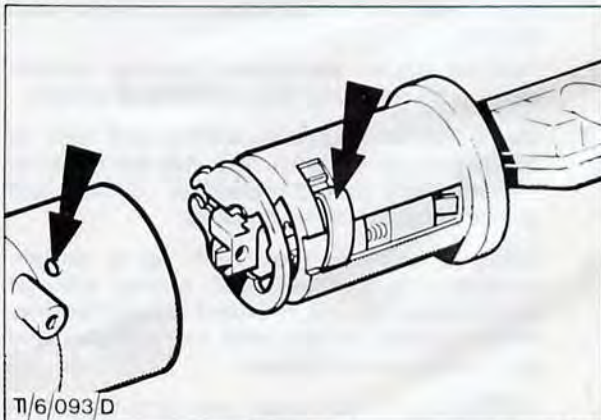

Fig. 80. Housing and cylinder in correct alignment prior to assembly
12. With reference to Fig. 80 insert cylinder assembly into housing. Ensure cylinder is pushed fully into housing, and leaf spring locates into undercut slot in housing.